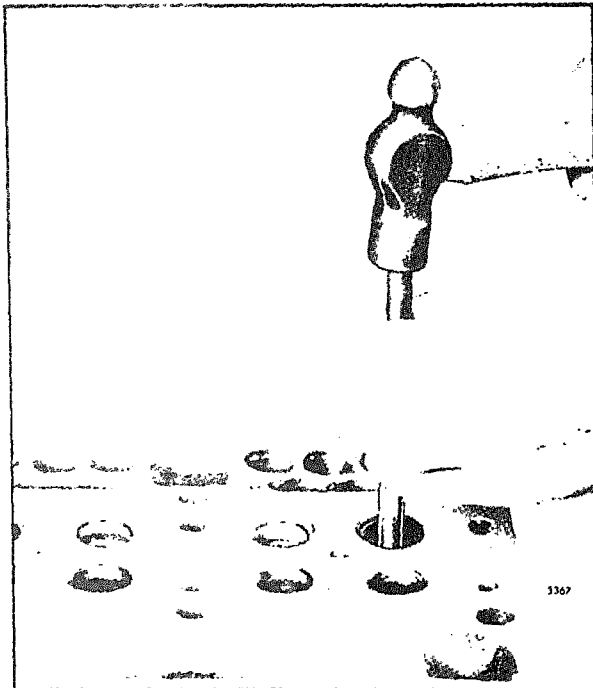

Fig. 5 - Removing Valve Guide
2. Drive the valve guide out of the cylinder head with valve guide remover J 7775 (four valve head) as shown in Fig. 5.